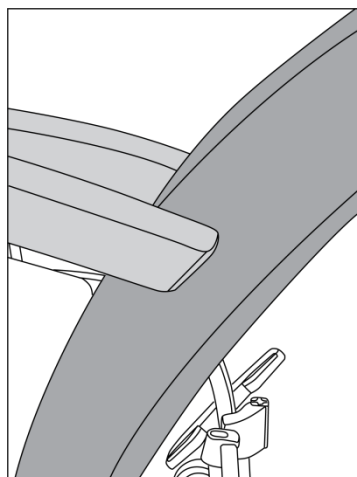

Figure 3.8: Adjusted inclination angle of the relax position
- **Make the inclination angle of the relax position smaller. Make sure that the middle of the side of the backrest does not get further than the far end of the armrests (see figure 3.8).**